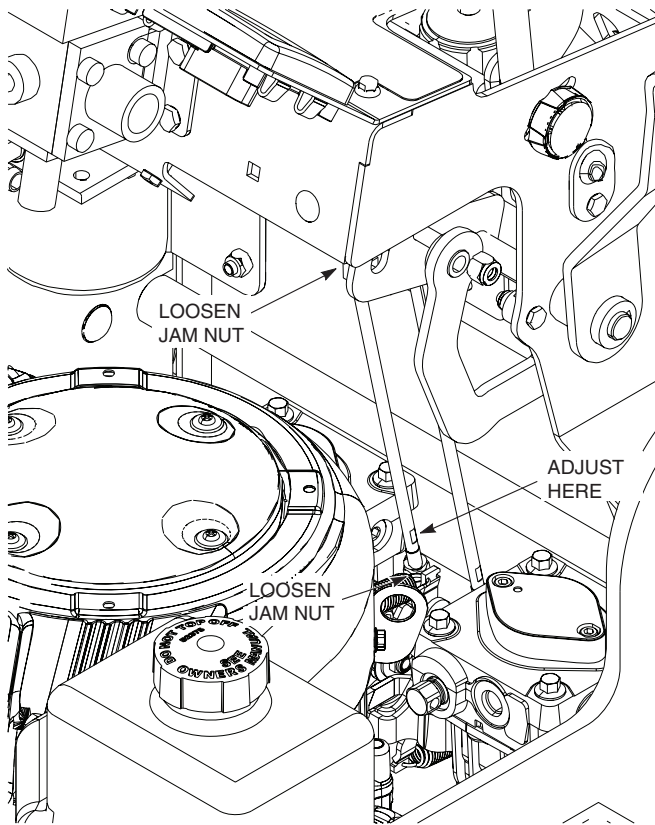

Figure 5-2. Tracking Adjustment (Left Side Shown)
4. Adjust the LH wheel by loosening the jam nuts on the steering control rod and turning the rod until the drive wheel turns in the forward direction. Turn the rod back until the drive wheel stops moving. Turn the rod an additional 1/2 turn. See Figure 5-2.
A. Stop the machine and place the steering control levers in the neutral position. Loosen the lock nuts securing the ball joints at each end of the LH steering control rod. Rotate the control rod to lengthen the rod and tighten the lock nuts. This will cause the control rod to stroke the LH pump less, slowing down the LH wheel. See Figure 5-2.
A. Stop the machine and place the steering control levers in the neutral position. Loosen the lock nuts securing the ball joints at each end of the RH steering control rod. Rotate the control rod to lengthen the rod and tighten the lock nuts. This will cause the control rod to stroke the RH pump less, slowing down the RH wheel. The same adjustment is used for the RH side as shown in Figure 5-2.